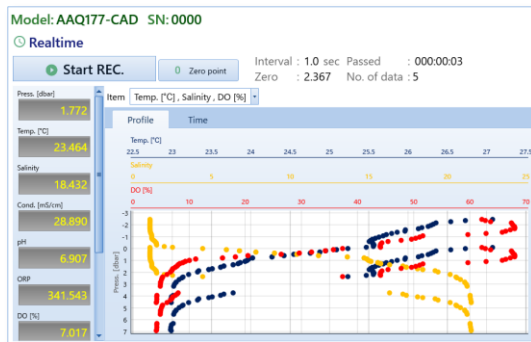

Figure 6.12 Example of real-time measurement
- (5) “Real-time measurement” will be displayed in “sub-window” and start communication with the instrument. (hereinafter, “monitored status”) (Figure 6.12)